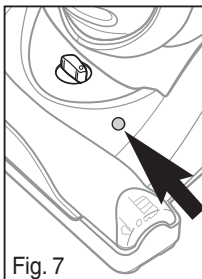

Fig. 7
- 1) Remove debris that caused the brush roll motor to stall (Fig. 7).